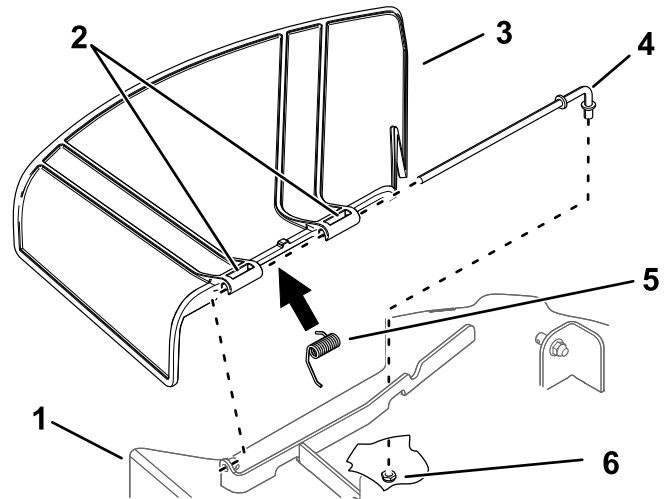

Figure 71
- Remove the nut (3/8 inch) from the rod under the mower (Figure 71).
- Slide the rod out of the short stand-off, spring, and grass deflector (Figure 71).
- Install the new grass deflector (Figure 71).
7. Slide the rod through the second grass-deflector bracket (Figure 71).
9. Secure the rear end of the rod into the mower with a nut (3/8 inch) as shown in Figure 71.